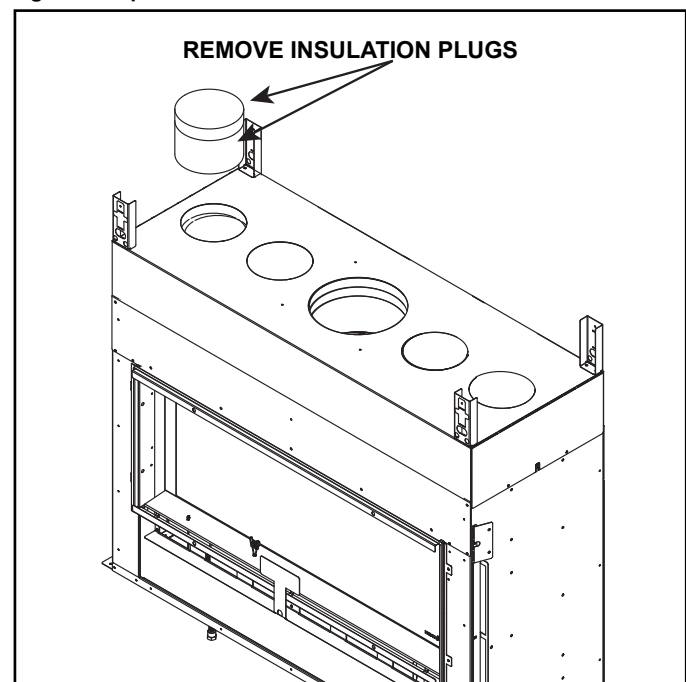

Figure 2 Remove Insulation
2. Remove the insulation from the hole of the knockout that was removed. See Figure 2.